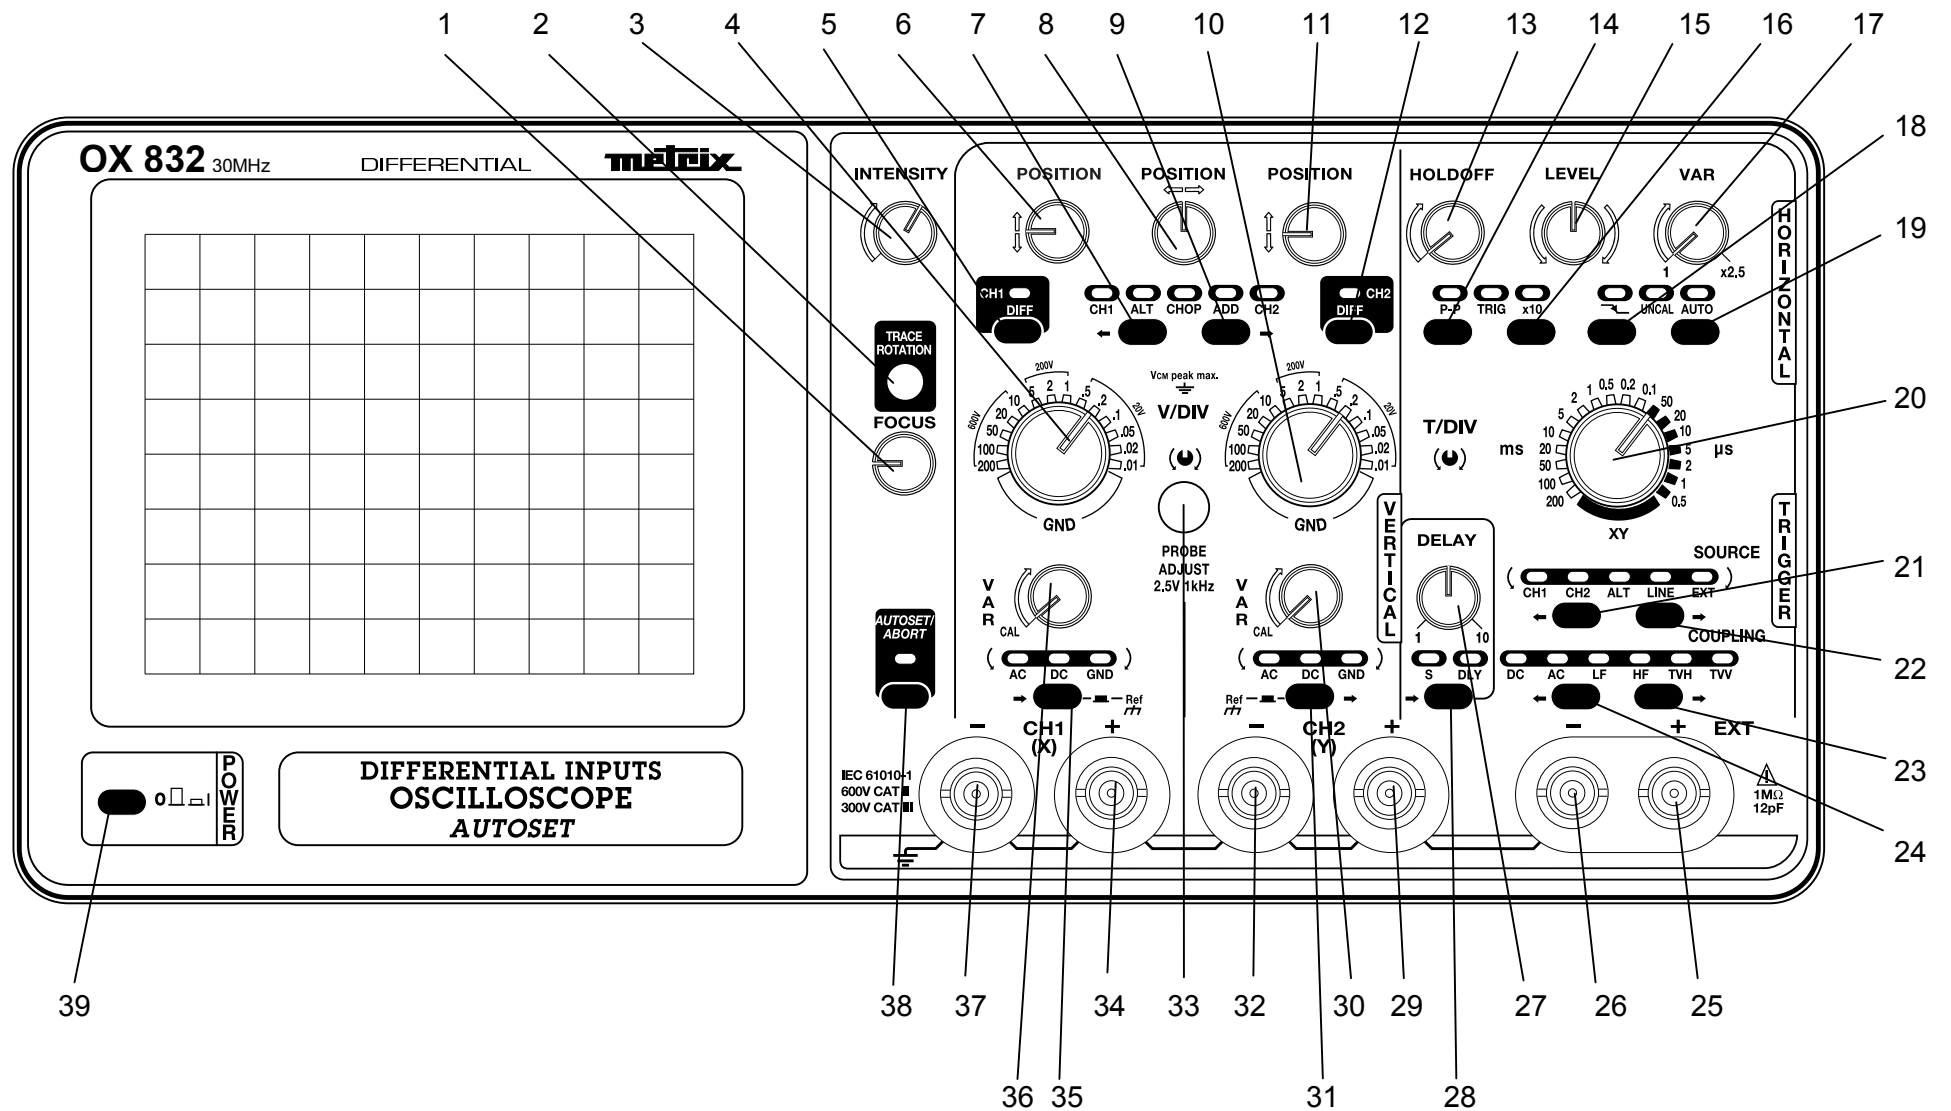

Figure 1 : Face avant
- Position the rotary controls as indicated in the figure 1.
- Press the POWER key (39): the last memorised configuration of the front panel is restored.
- Validate the AUTO key (19).
- brightness with the INTENSITY potentiometer (3),
- the thickness of the traces with the FOCUS potentiometer (1),
- the horizontalness of the traces with the potentiometer to be reached through the TRACE ROTATION hole (2).